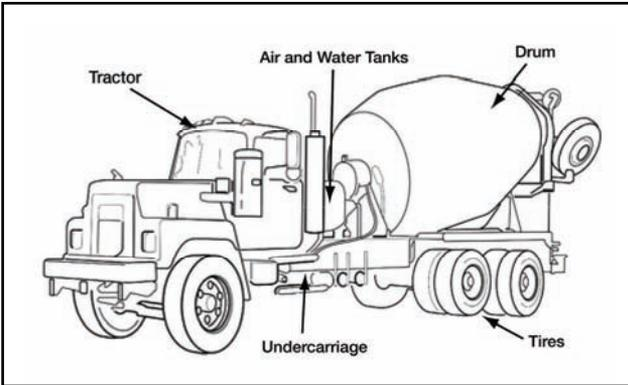

Figure 191-376-5141-14. Concrete Truck or mixer
o. Determine if the commercial vehicle is a dump truck (see figure 191-376-5141-15).